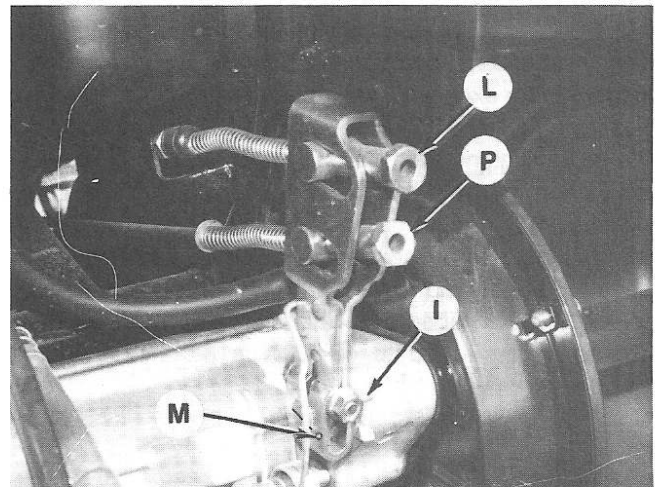
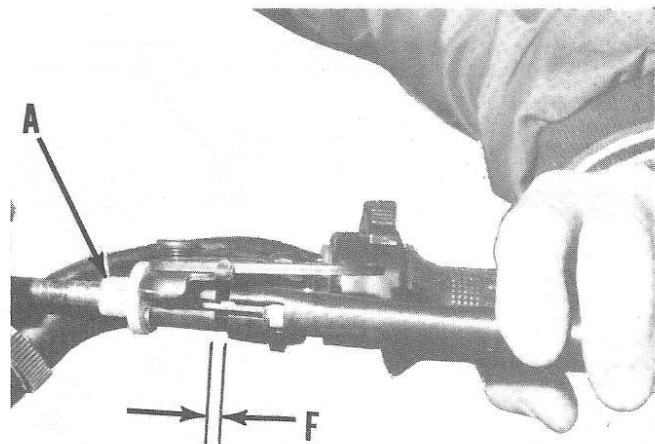

Fig. S6-24—View of brake lever adjuster (L), pedal adjuster (P) and brake lining wear indicator marks (M) and (I) typical of all models.
Fig. S6-25—Brake lever should have 3-7 mm (0.1-0.3 in.) of free travel measured at (F). Turn adjuster (A) completely in and adjust at (L—Fig. S6-24).
To properly check and adjust brake system, first actuate brake pedal and measure free travel at end of pedal. Free travel should be 20-30 mm (0.8-1.2 in.) and is adjusted by rotating pedal adjuster (P—Fig. S6-24). After adjusting brake pedal, check brake lever adjustment. Remove protective cover from lever and measure brake lever free travel. Lever should have 3-7 mm (0.1-0.3 in.) of free travel between lever base and bracket as measured at (F—Fig. S6-25). To adjust, turn adjuster (A) on brake lever completely in, then rotate lever adjuster (L—Fig. S6-24) located at rear brake as required. Additional adjustment is possible by turning adjuster (A—Fig. S6-25).
All models are equipped with a brake lining wear indicator (I—Fig. S6-24) on axle housing to externally determine brake lining wear limit. To externally check brake lining wear, apply the brake and note the location of index mark (M) on brake cam lever in relationship to stationary indicator (I). If mark does not rotate beyond wear indicator (I), brake linings may be considered satisfactory.